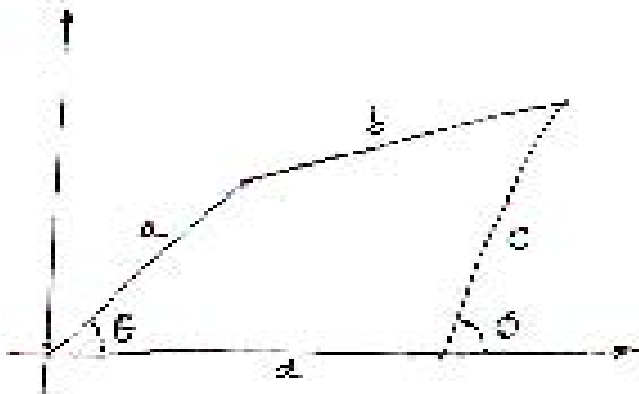

Fig. 1
b) Fig. 1 shows a schematic of a four bar mechanism with input link 'a' and out put link 'c' angles θ and ϕ for three successive positions are given in the table below :